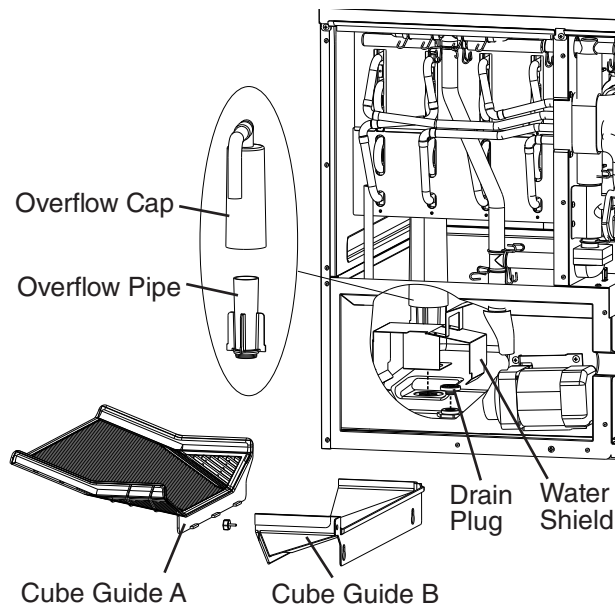

Fig. 13
- 7) Remove the insulation panel. Remove cube guide B, then remove cube guide A. See Fig. 13. Remove the overflow cap, overflow pipe, and water shield.